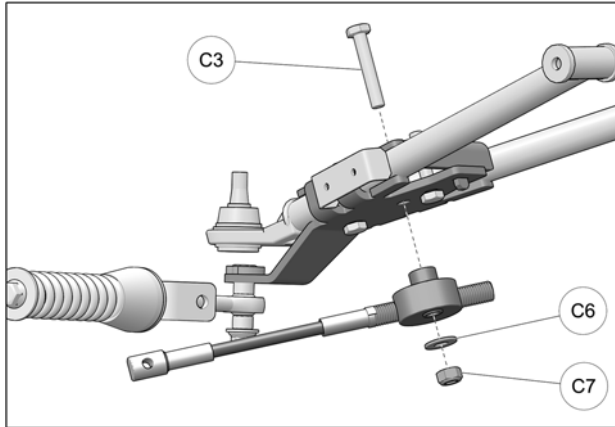

Fig. 22
- Apply grease evenly all around step spacer bushing (C5) and in hole of aluminum disk (C1) when assembling these parts together. See Fig. 22
11. Pass bolt (C3) down through opening in bracket cover and insert it in the anchor bracket's central hole. Slip steering limiter cable assembly over bolt (C3) and use washer (C6) and nut (C7) to secure assembly to anchor bracket. Tighten nut to 50 N•m [37 lb•ft]. Refer to Fig. 22